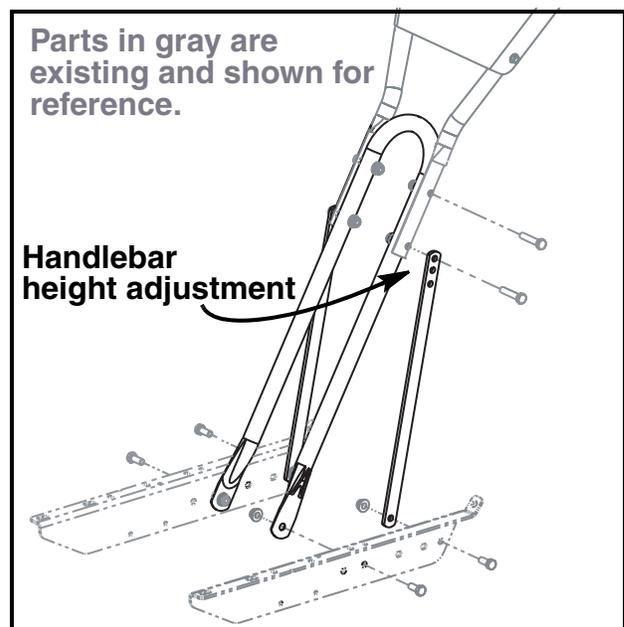

FIGURE 2
7. Refer to Figure 2. Install, but do not tighten hardware until reassembly is complete, the new Lower Handle, Item 1, and new Handle Support Brackets, Item 2, and the existing upper handle subassembly as shown in Figure 2.